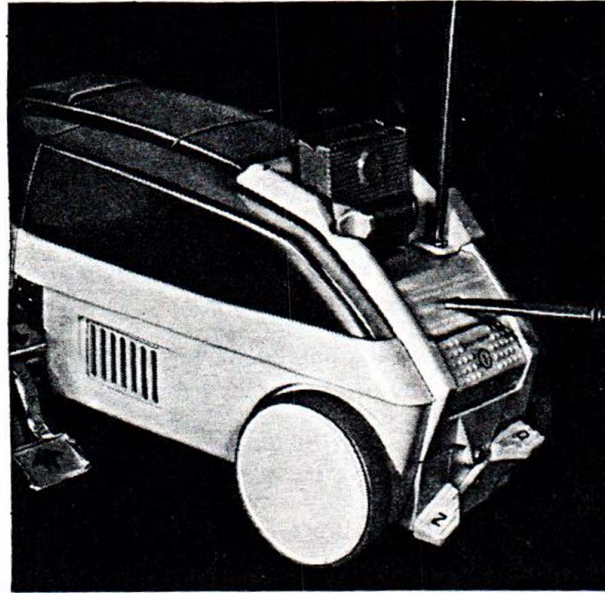

Figure 3. Scuff Plate Removal
- B. See Figure 3. Remove scuff plate by: